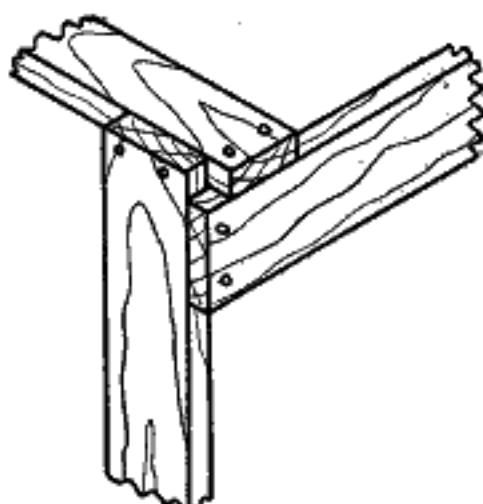

FIG. 72.—A strong nailed corner used in crating.
**73. Locating the Nails.**—The strength of a nailed joint depends largely on the distribution and location of the nails. Where possible, the nails should be staggered and not driven too close together nor in line with the grain. It is always good practice to nail through a thin piece into a thick one, and not through a thick piece into a thin one. A nail will hold much more if driven across the grain than if driven into end grain. Figure 72 illustrates a good method of making a crate corner.